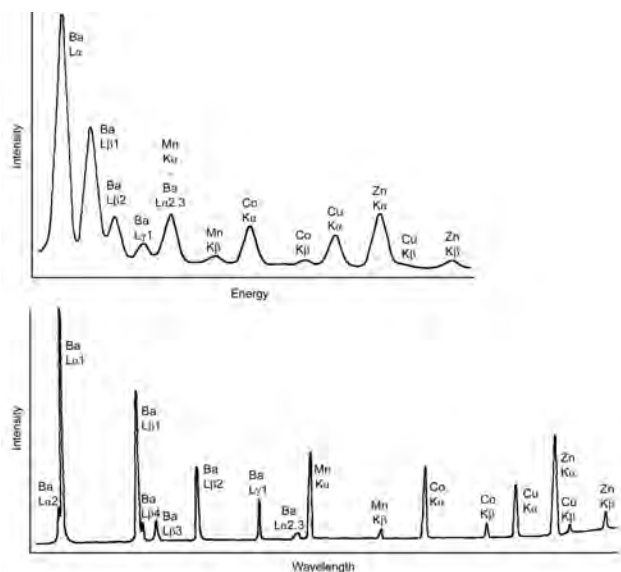

Fig. 1 — Comparison of EDS and WDS spectra from a complex multi-element glass.
The microscope has a lateral resolution of 1 to 50 nm in the secondary electron mode. EDS provides rapid multi-element analysis for $Z > 11$, with a detection limit of ~200 ppm. WDS is based on the phenomenon of Bragg diffraction of x-rays incident on a crystal and yields a more precise quantitative estimate of elements. SEM is uniquely able to image in both secondary electron (SE) mode and backscattered electron (BE) mode. Figure 1 shows a comparison of EDS and WDS spectra from a complex multi-element glass.